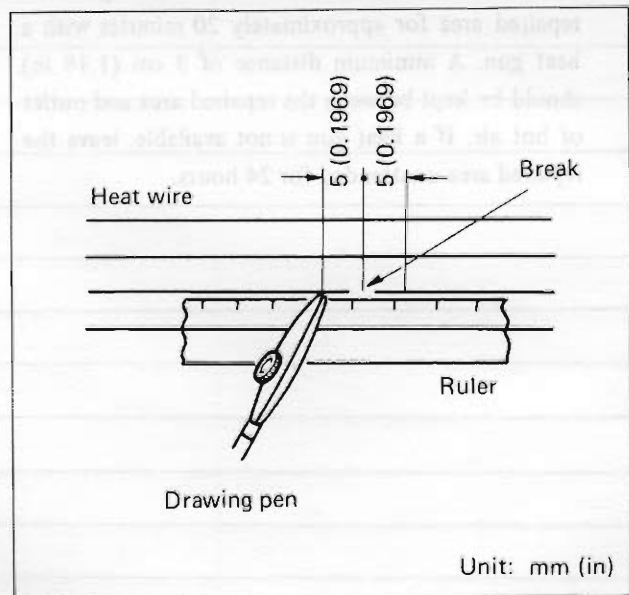

Fig. BE-47 Locating ruler in position
- c. Place ruler on glass along broken line to be repaired as shown in Figure BE-47. Deposit conductive silver composition to break line with drawing pen. Slightly overlap existing heat wire either side [5 mm (0.1969 in) preferable] of the break.